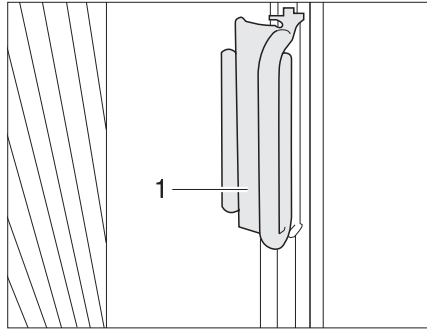

Fig. 18 Locking mechanism for Roman shades on driver's/front passenger's windows
- On the Roman shades for the driver's and passenger's window, push the handle (Fig. 18,1) onto the cap.